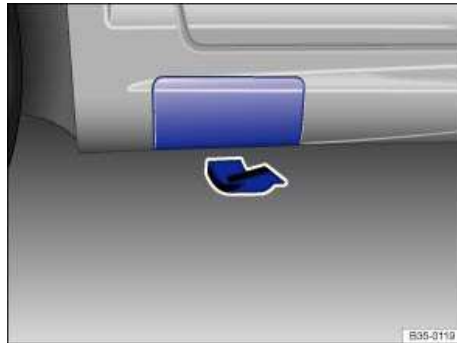
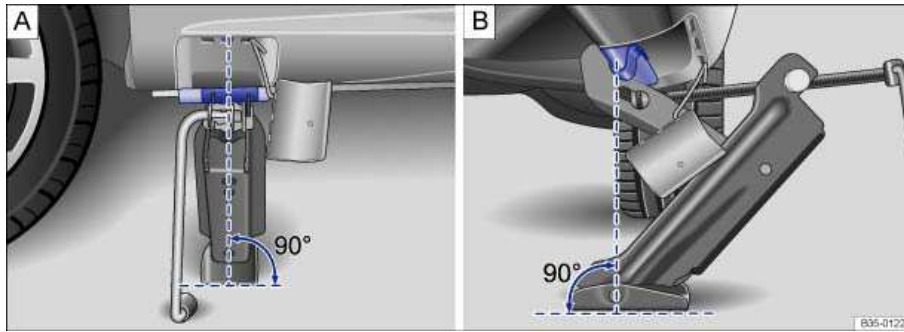

Fig. 188 Vehicle jack lift point in the side sill: Fold the cover up.
Fig. 189 Jack in position at the left rear lift point.
The jack must be positioned at one of the 4 lift points located behind covers on the vehicle frame. The covers must be open ⇒ fig. 188 to position the jack properly ⇒ fig. 189. You must use the lift point closest to the wheel being changed.
8. Remove the cover panel in the side sill. To do so, pull forcefully but carefully in the direction of the arrow ⇒ fig. 188. Secure the cover panel with the retaining strap.
10. Position the jack so that its base is directly underneath the lift point ⇒ fig. 189, making sure that the entire base of the jack rests securely on the ground.